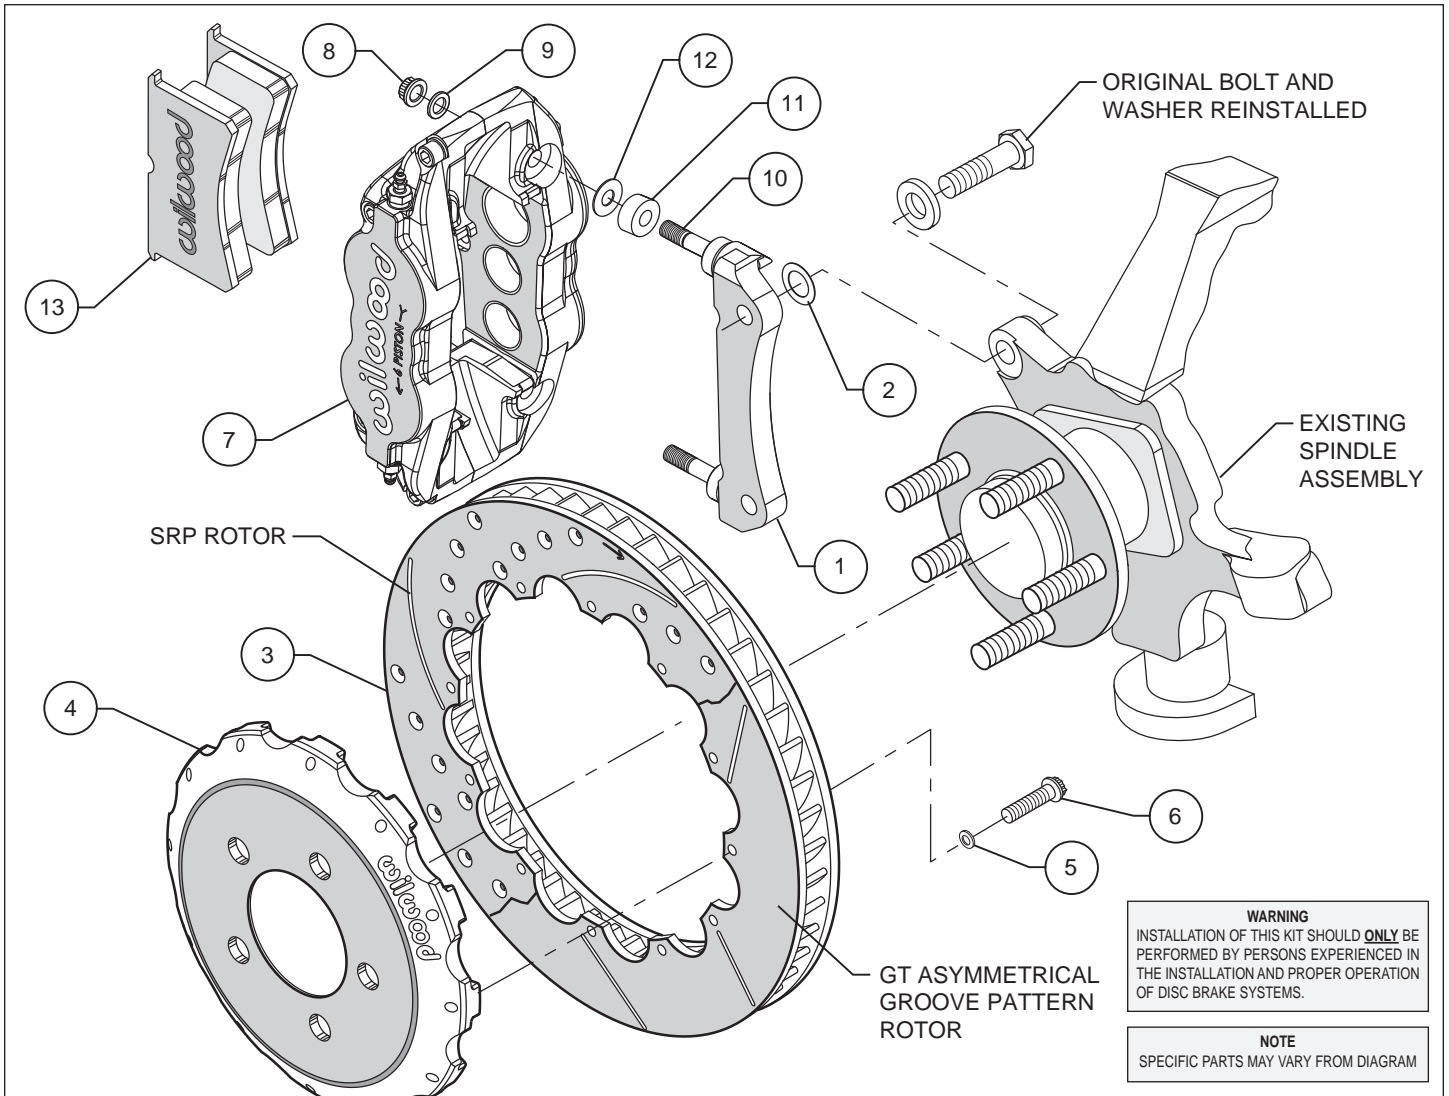
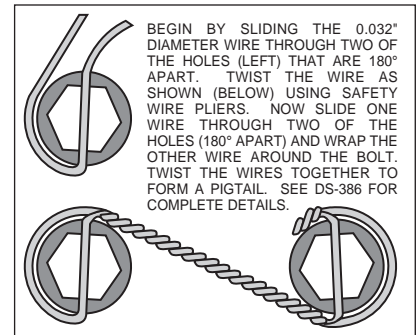

Figure 1. Typical Installation Configuration
Figure 3. Safety Wire Diagram
- Assemble the rotor (3) to the hat (4) with the bolts (6) and washers (5) as indicated in the configuration pictured in Figure 1. Using an alternating sequence, apply red *Loctite*® 271 to the threads and torque bolts to 155 **in-lb**. For an added measure of security, the bolts may be safety wired using standard 0.032 inch diameter stainless steel safety wire as shown in Figure 3. Please refer to Wilwood's data sheet DS-386 for complete safety wire installation
- **NOTE:** This kit contains distinct right and left hand calipers that must be mounted in a specific direction, as described below. Lubricate the caliper mounting studs (10) with lightweight oil. Initially place one .035" thick shim (12) and spacer (11) on each stud as shown in Figure 1. Mount the caliper (7) onto the bracket (1) using lock nuts (8) and washers (9), Figure 1. Ensure that the caliper is mounted so that the largest pistons are at the rotor exit end of the caliper, in relation to the direction of rotor rotation. Temporarily tighten the lock nuts and view the rotor through the top opening of the caliper. The rotor should be centered in the caliper. If not, adjust by adding or subtracting shims (2) between the bracket and the upright. Always use the same amount of shims on each of the two mounting bolts. Once the caliper alignment is correct, remove the bracket mounting bolts one at a time, apply red *Loctite*® 271 to the threads, and torque to manufacturer's specifications.
- Remove the caliper center bridge pad retainer bolt, nut, and tube from the caliper. Slide the brake pads (13) into place. They should install easily without interference. Check that the outside radius of the brake pad is aligned with the outside diameter radius of the rotor face. Add or subtract .035 shims (12) between the caliper and mount bracket to gain the proper alignment. Reinstall the center bridge pad retainer tube, bolt, and lock nut. The locknut should be snug without play in the bolt or tube. Be cautious not to over tighten.
- Once all clearances have been checked, remove the wheel, caliper, hat, and rotor from the spindle and hub. Secure the caliper mounting bracket (1) to the spindle using red *Loctite*® 271. Torque the bolts to 65 ft-lbs. Reinstall the hat and rotor assembly and again use several lug nuts to hold it in place. Lubricate caliper mounting studs and nuts with lightweight oil, reinstall the caliper, torque the caliper nuts (8) to 28 ft-lbs.